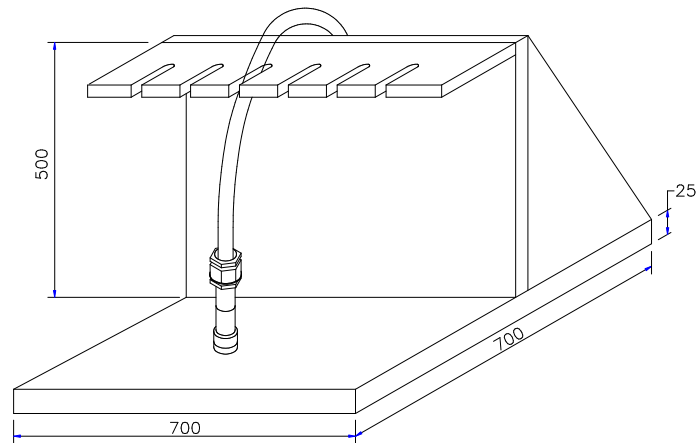

Figure 4.1
- 2.7.15 Fixture for jointing upto six uplift pressure meters (refer figure 4.1)